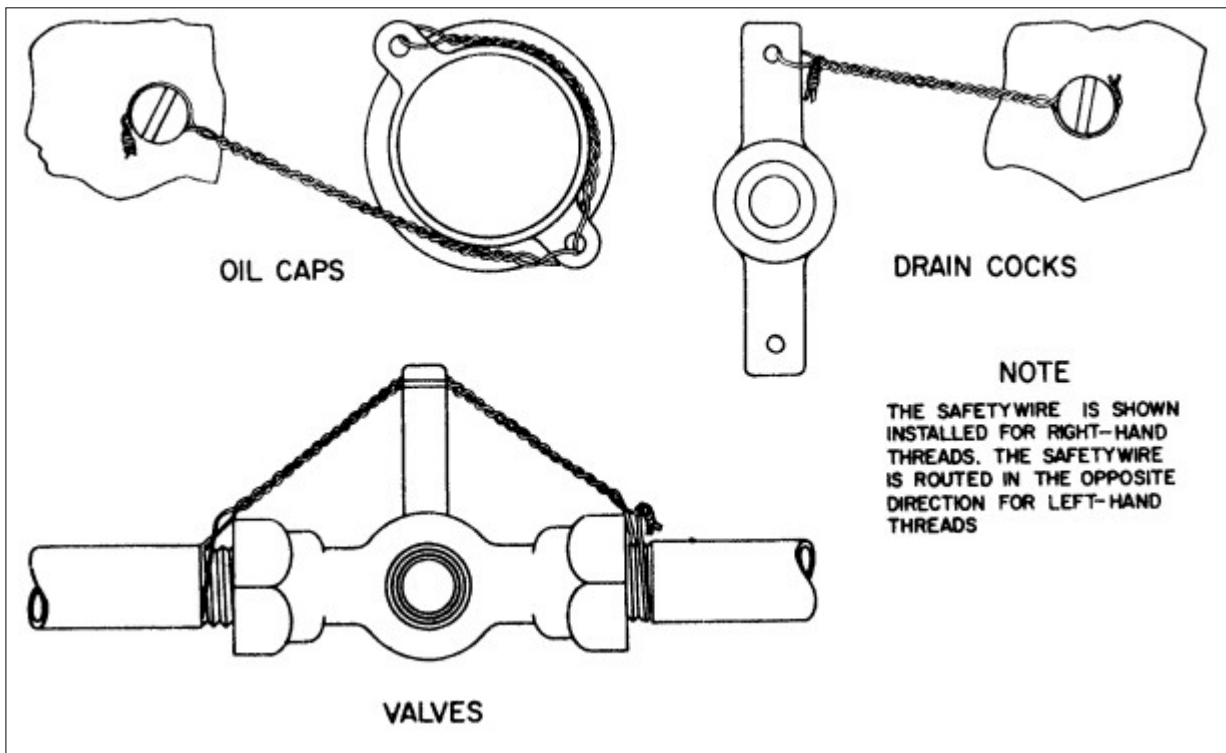

FIGURE 7-4a. Securing oil caps, drain cocks, and valves.
**7-126. SECURING OIL CAPS, DRAIN COCKS, AND VALVES.** (See figure 7-4a.) When securing oil caps and drain cocks, the safety wire should be anchored to an adjacent fillister-head screw. This method of safety wiring is applied to wingnuts, filler plugs, single-drilled head bolts, fillister-head screws, etc.; which are safety wired individually. When securing valve handles in the vertical position, the wire is looped around the threads of the pipe leading into one side of the valve,